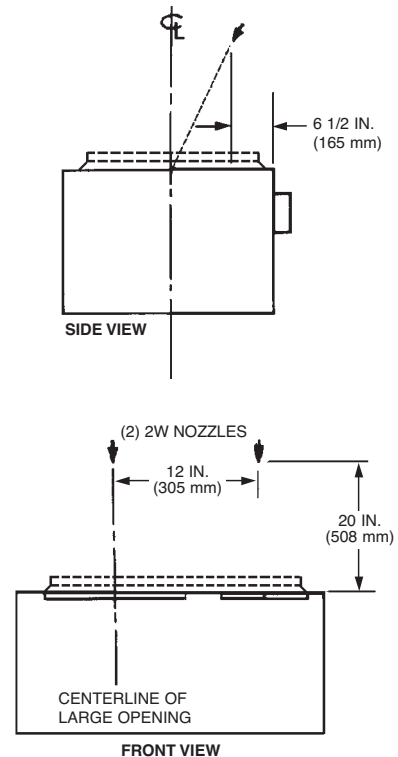

FIGURE 65
- **Nozzle Quantity/Type:** (2) Two 2W nozzles, Part No. 419337.
- **Nozzle Height:** 20 in. (508 mm) above top of appliance. See Figure 65.
- **Nozzle Location for Large Chamber:** 6 1/2 in. (165 mm) back from front edge of appliance. See Figure 65.
- **Nozzle Aiming Point for Large Chamber:** Aimed at center of opening. See Figure 65.